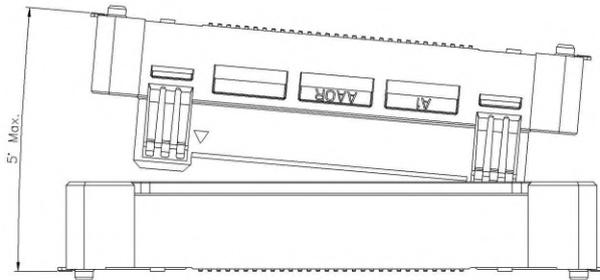
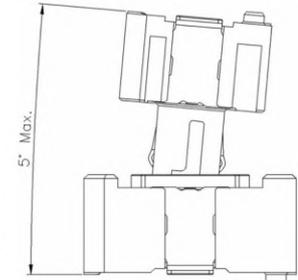

图 8/ Fig8
图 9/ Fig9
g. 图 8 及图 9 所示指导角度，插入前不可大于此角度（未锁定）；
Guide Angle as shown in figure 8 and figure 9, not greater than this Angle before insertion (not locked)